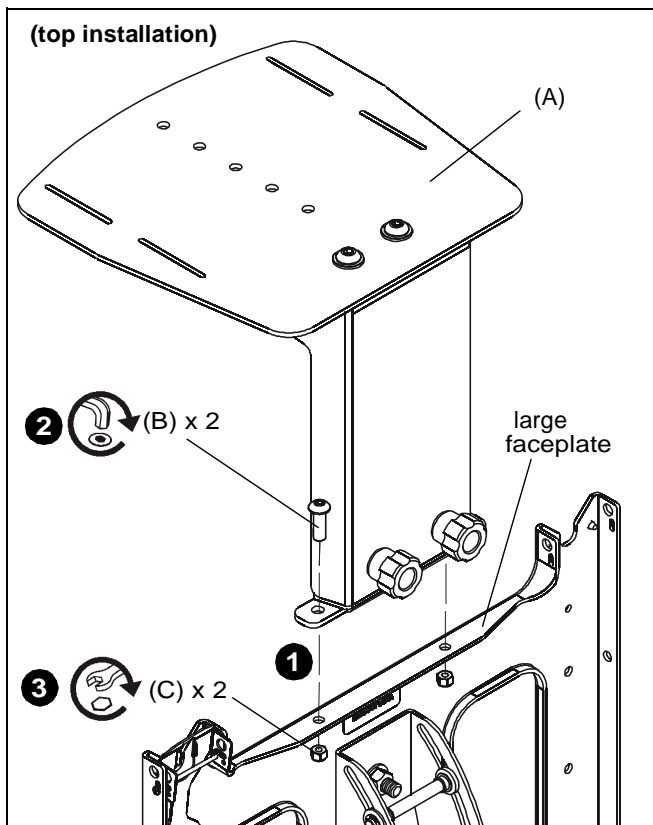

Figure 1
1. Position video conferencing shelf (A) above or below the faceplate making sure to line up the holes on the shelf with the holes on the faceplate. (See Figure 1 or 2)
2. Install two 1/4-20 x 3/4" button head cap screws (B) through holes in shelf and faceplate. (See Figure 1 or 2)
3. Thread two 1/4-20" lock nuts onto screws to secure shelf to faceplate. (See Figure 1 or 2)